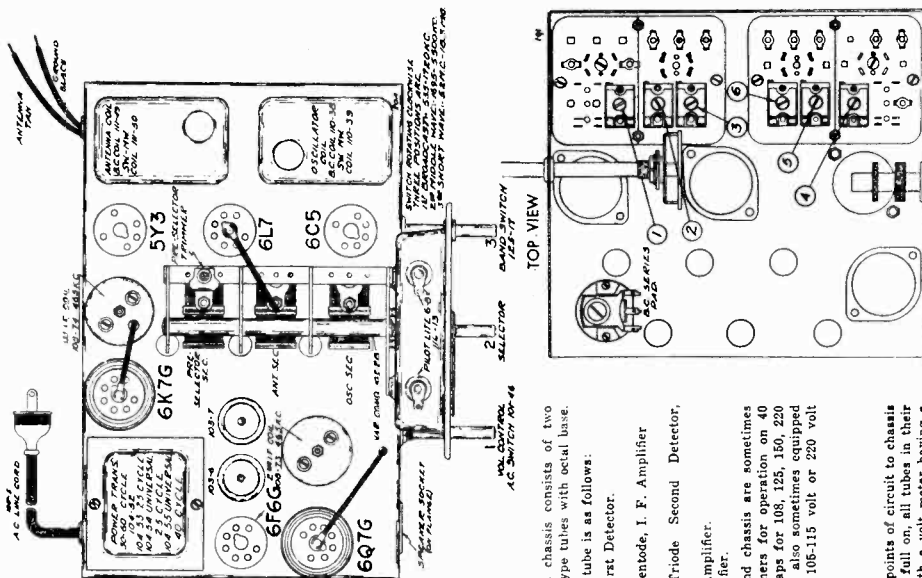

FIG. 3.—BOTTOM VIEW SHOWING TRIMMERS
- (a) Set external oscillator to 1720 K.C. and adjust broadcast antenna trimmer to resonance (Adjustment number 1; see bottom view of coil assembly, Fig. 3)
- (c) Re-set external oscillator to 600 K.C., and adjust broadcast series pad to resonance by rotating condenser to approximately 600 K.C., rocking it slowly to and fro until by adjusting series pad maximum output is obtained. This adjustment is located on the bottom of the chassis directly under the variable gang condenser. (See bottom view of chassis, Fig. 3).